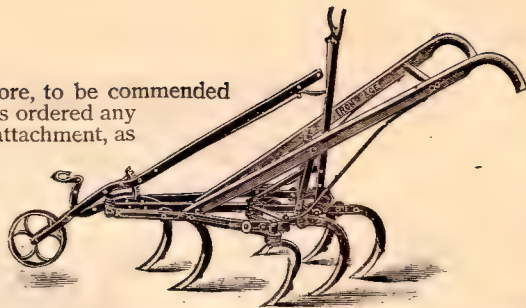

Fig. 71
**The Frame** of this tool is high and long, therefore it runs steady and with excellent clearance of trash. The Horse Hoe standards carry the cultivator teeth, as shown in Fig. 71, instead of using an additional pair of cultivator standards as we do in the case of our No. 1 "IRON AGE" Horse Hoe, Fig. 64.
The furrow-closing or 7-tooth attachment shown in Fig. 71, is a particular feature of our "IRON AGE" No. 6 and No. 7 Horse Hoes and Cultivators. The large number of these attachments sold since their introduction have been very gratifying, and all who have used them claim they are the greatest improvement made on cultivators for years. Very often has been heard this criticism on a five-tooth cultivator, and a well-founded one it is; that the rear tooth on each side bar, passing closely to the crop, leaves an open furrow which should by all means be closed. This is especially noticeable when the cultivator is opened wide—too wide to enable the centre tooth or sweep to close this furrow. It is the avoidance of this that makes the *better* work done by a two-horse cultivator working astride the row.